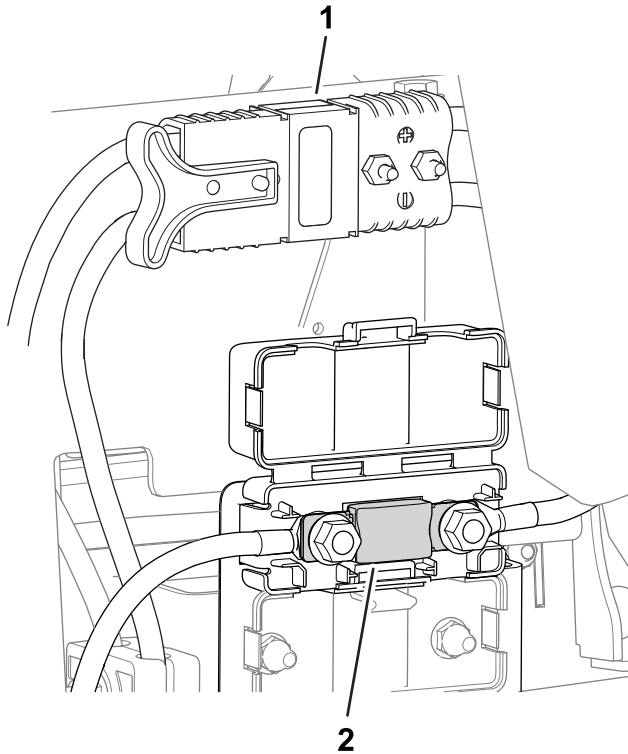

Figure 53
- The fuse for the electrical system is located under the main-power connectors (Figure 53).